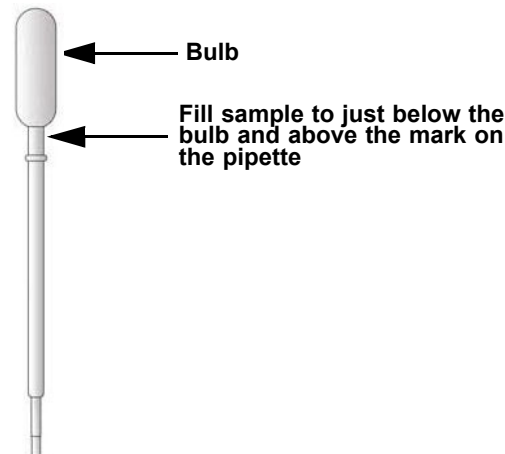
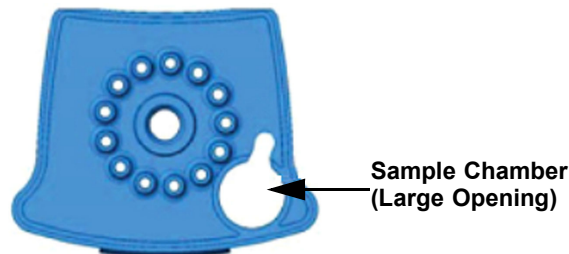

Figure 2. GeneXpert Ebola Assay 1 mL Transfer Pipette
Figure 3. GeneXpert Ebola Assay Cartridge (Top View)
5. Use the 1 mL transfer pipette (see Figure 2) or an automatic pipette to transfer 1 mL of the sample reagent-treated sample into the sample chamber of the cartridge (see Figure 3). Do **NOT** pour the sample into the chamber.